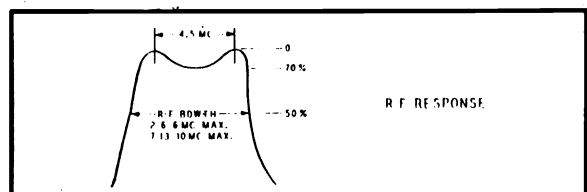

Fig. 8-Pix and Audio Markers
4. Check R-F passband on other channels as per figure 8.